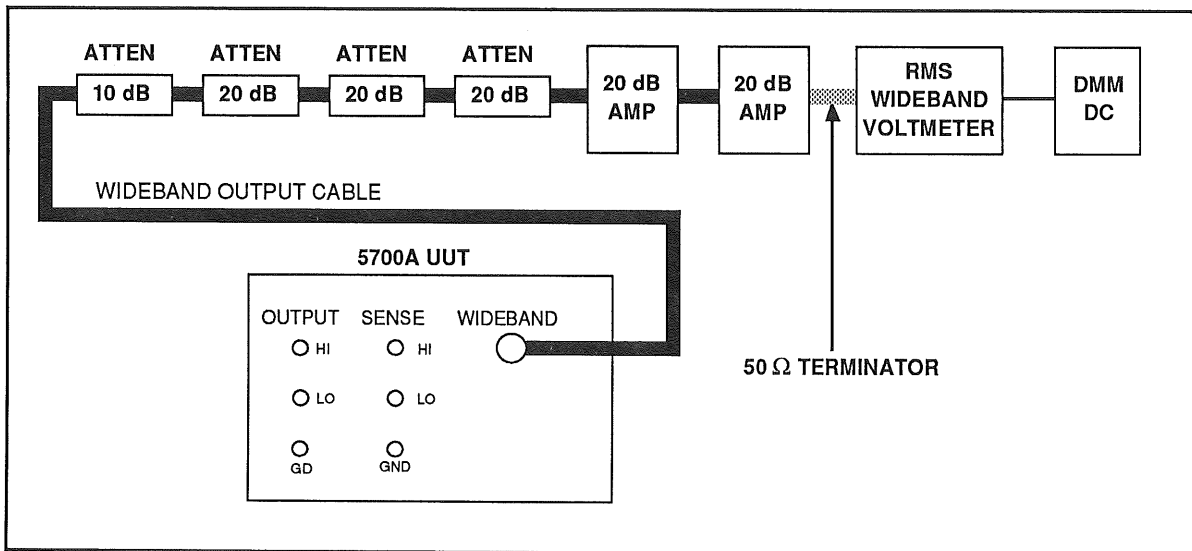

Figure 3-18. Attenuator Flatness Test Setup
1. Connect the equipment as shown in Figure 3-18.
2. With the equipment still connected as in Figure 3-18, remove the 10 dB attenuator and program the 5700A for a wideband output of 1V, 1 kHz.